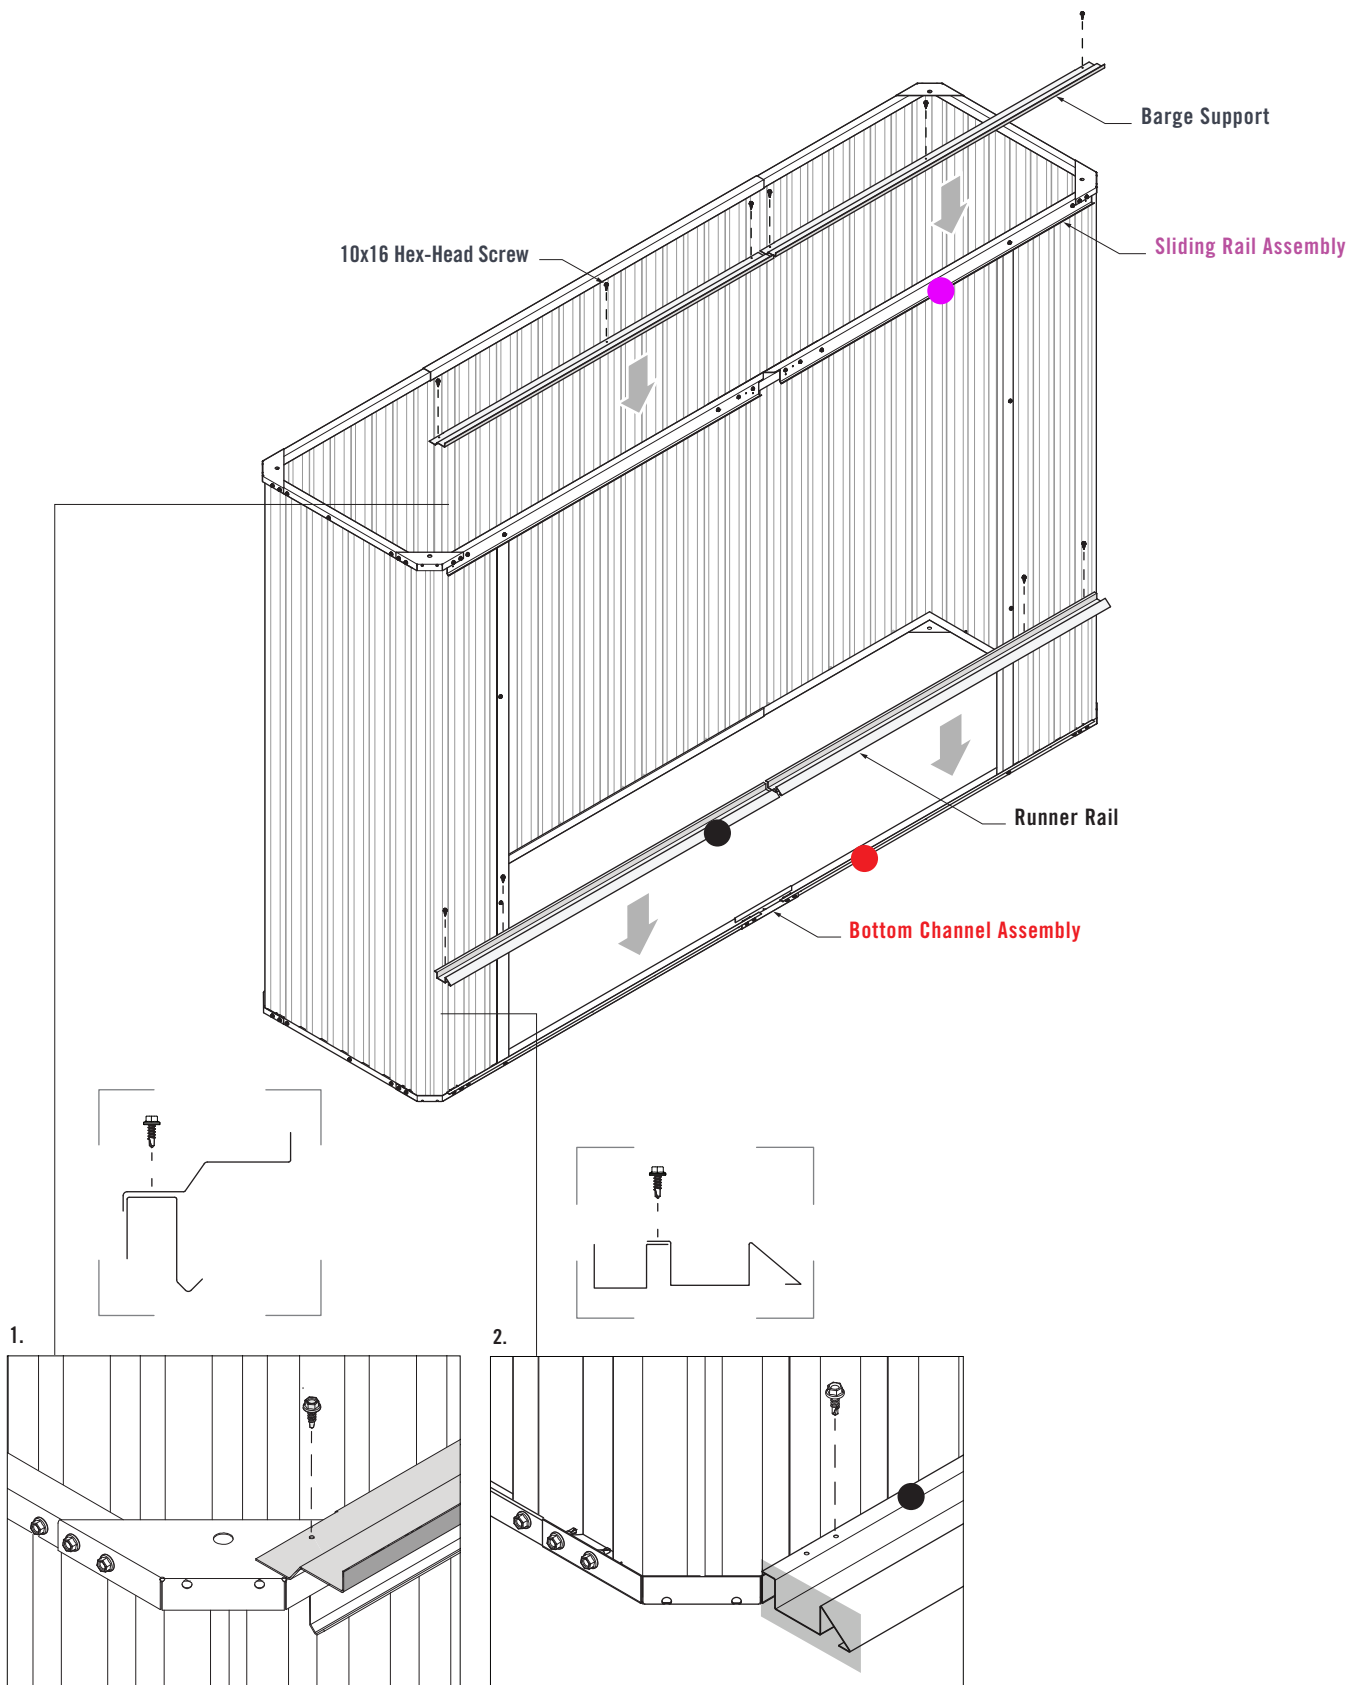

FIGURE 8.2
1. Fit the two Barge Supports over the **Sliding Rail Assembly**. Fasten six 10x16 Hex-Head Screws through the pilot holes of the Barge Supports and into the **Sliding Rail Assembly** (Figure 8.2).
2. Fit the two Runner Rails over the **Bottom Channel Assembly**. Fasten four 10x16 Hex-Head Screws through the pilot holes of both Runner Rails and into the **Bottom Channel Assembly** (Figure 8.2).